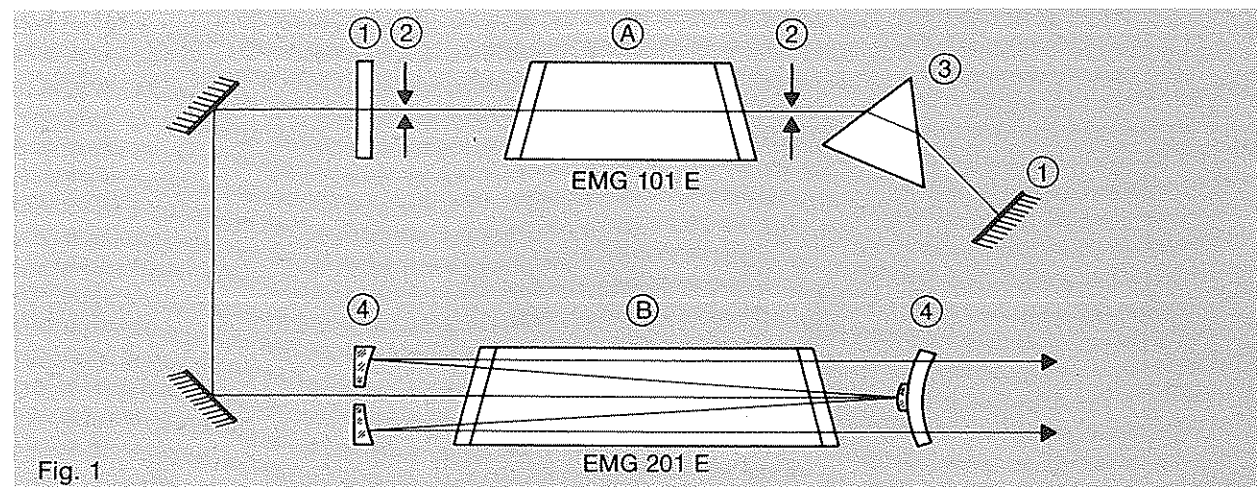

Fig. 1
An oscillator (Fig. 1, A) working with stable* resonator optics (1) delivers a signal with nearly diffraction-limited beam, controlled by apertures (2). Tunability and narrow bandwidth are provided by a set of prisms (3) in case of the "T"-version. The oscillator signal is injected into the amplifier (Fig. 1, B) with unstable** resonator optics (4), forcing the amplifier to run in the desired cavity mode. The extremely high precision needed for timing the two sections is attained by using only one switching element (thyatron). This advanced concept is realized in the EMG 150 series.